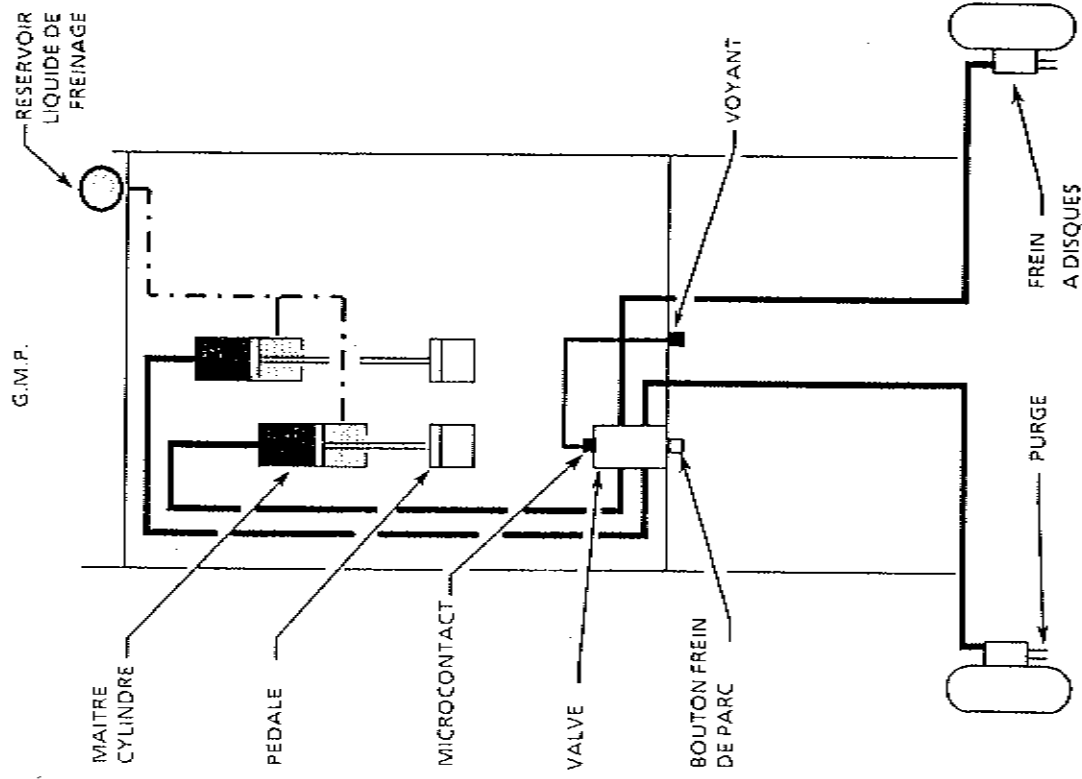

Figure 7.15A - CIRCUIT DE FREIN
**FREIN DE PARC A VALVE (Voir Figure 7.15A)**